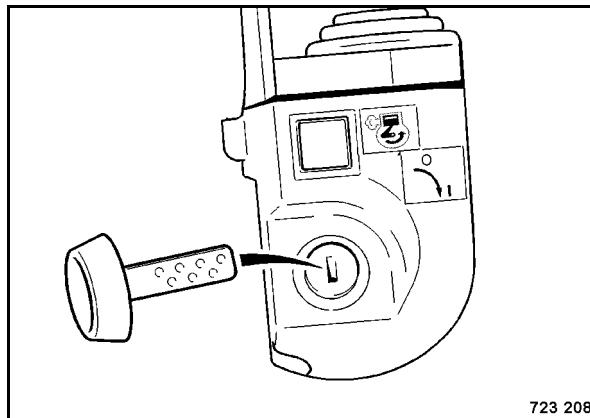

Fig. 68
- Pull off the ignition key (Fig. 68) and store it in a safe place.